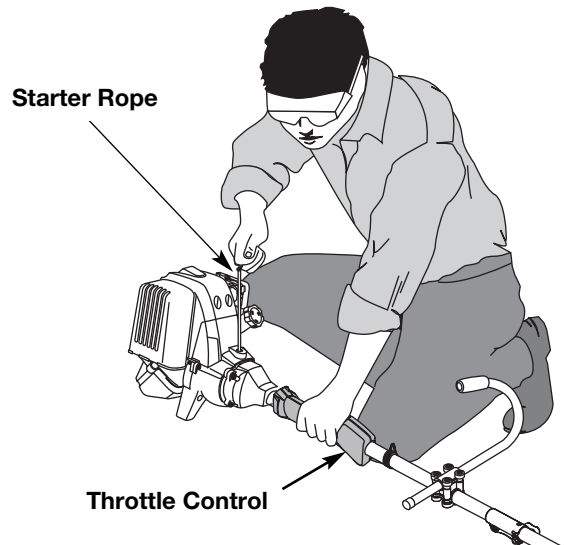

Fig. 8
WARNING: Avoid accidental starting. Make sure you are in the starting position when pulling the starter rope (Fig. 8). To avoid serious injury, the operator and unit must be in a stable position while starting.
6. Crouch in the starting position (Fig. 8) and squeeze the throttle control. Pull the starter rope briskly 5 times.